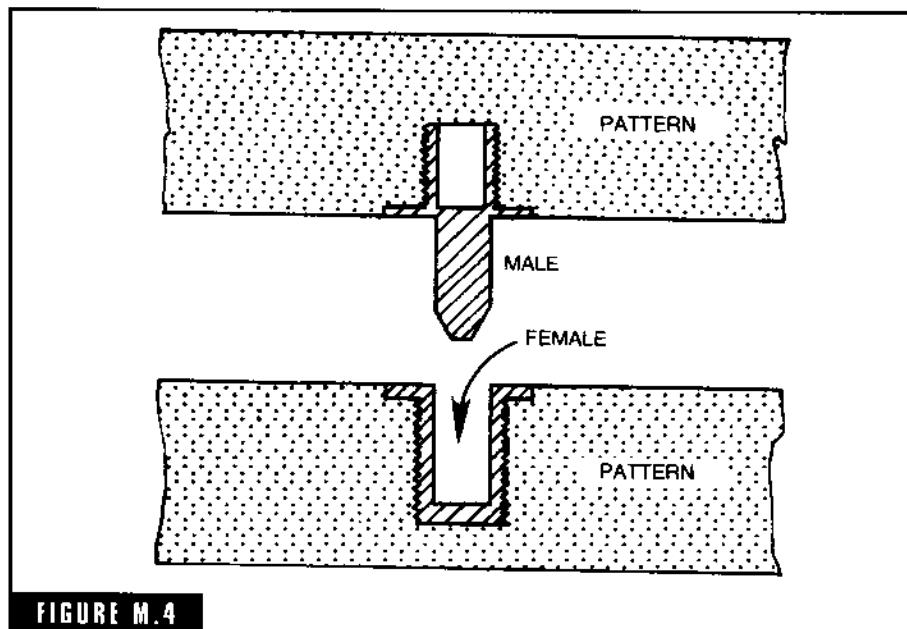

FIGURE M.4
**master dowels** Male and female dowels used in pattern to ensure a correct and precise register of pattern components while at the same time allowing the components to be freely taken apart or put together for molding (Fig. M-4). Maintains correct register with repeated use, which is not the case with wooden dowels.